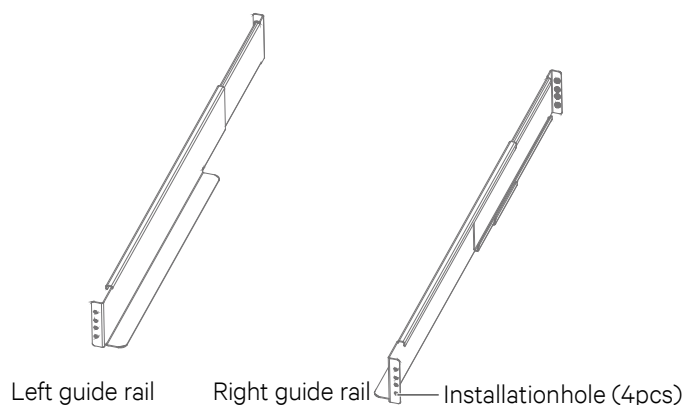

Figure 2-10 Appearance of the guide rail
a) Take out the guide rails (one left guide rail and one right guide rail), guide rail screws and panel screws from the package, distinguish the left guide rail and right guide rail according to Figure 2-10, and confirm its retractable function respectively.
2. Any end of one guide rail has four installation holes (see Figure 2-10), do not use the two installation holes in the middle when fixing the guide rail. It is recommended to use the top and bottom installation holes (from top to bottom, installation hole 1 and installation hole 4).